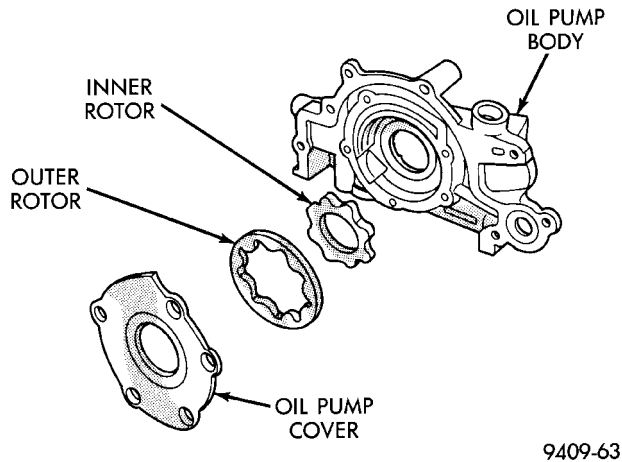

Fig. 101 Checking Oil Pump Cover Flatness
(1) Clean all parts thoroughly. Mating surface of the oil pump should be smooth. Replace pump cover if scratched or grooved.
(2) Lay a straightedge across the pump cover surface (Fig. 101). If a 0.076 mm (0.003 inch.) feeler gauge can be inserted between cover and straight edge, cover should be replaced.